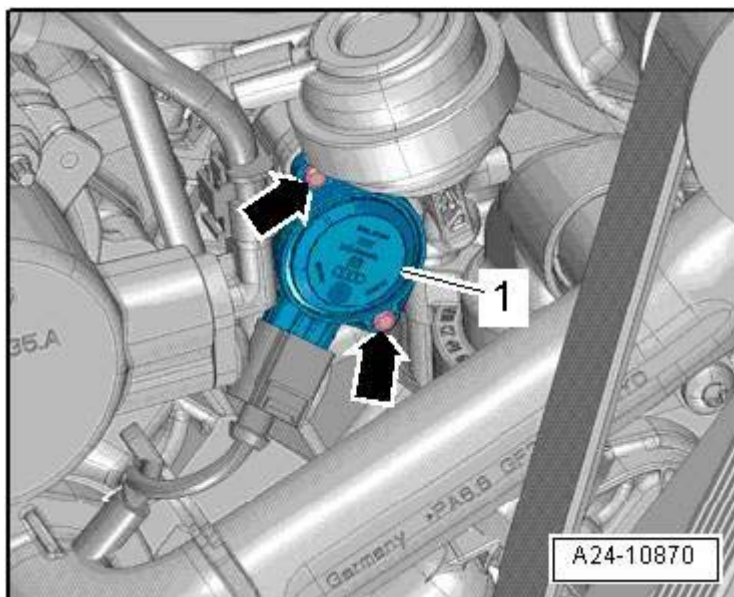

Figure 3. Intake manifold sensor (1) and bolts (arrows)
2. Remove the intake manifold runner position sensor by using a ball head torx bit to remove the bolts (Figure 3, arrows).